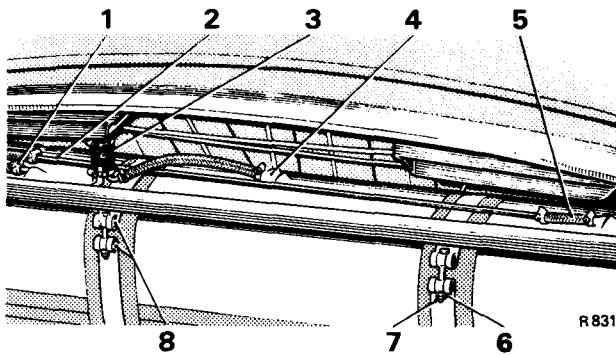

FIG. 6 FUEL TANK VENT CONNECTIONS
9. Unscrew the worm drive clips securing the three rubber vent hoses to their respective connections on the fuel tank (see Fig. 6); withdraw the hoses.
12. Unlock and unscrew the half-nut from each of the two tank retaining strap bolts (see Fig. 6).
13. Unscrew the full nut from each of the two tank retaining strap bolts (see Fig. 6).
14. Withdraw the bolts and collect the four bridge pieces from the end of the retaining straps (see Fig. 6).
15. Fit the two 8,0 mm. ($\frac{5}{16}$ in.) internal diameter rubber hoses of the fuel intake assembly to the fuel tank vents. One hose connects directly to the vent, whilst the second hose, connects to the vent on the other side of the fuel tank, via a metal pipe which is fitted across the top of the tank (see Fig. 6).
16. Fit the open end of the 4,8 mm. ($\frac{3}{16}$ in.) diameter hose referred to in Operation 5 to the top of the rollover valve assembly. Fit an 8,0 mm. ($\frac{5}{16}$ in.) internal diameter hose between the centre vent in the top of the fuel tank and the bottom connection of the rollover valve (see Fig. 6).